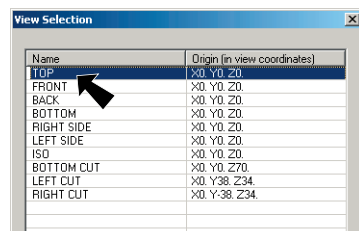

Fig. 102
Step 10. Select **TOP** in the View Selection dialog box, **Fig. 102** and click OK .